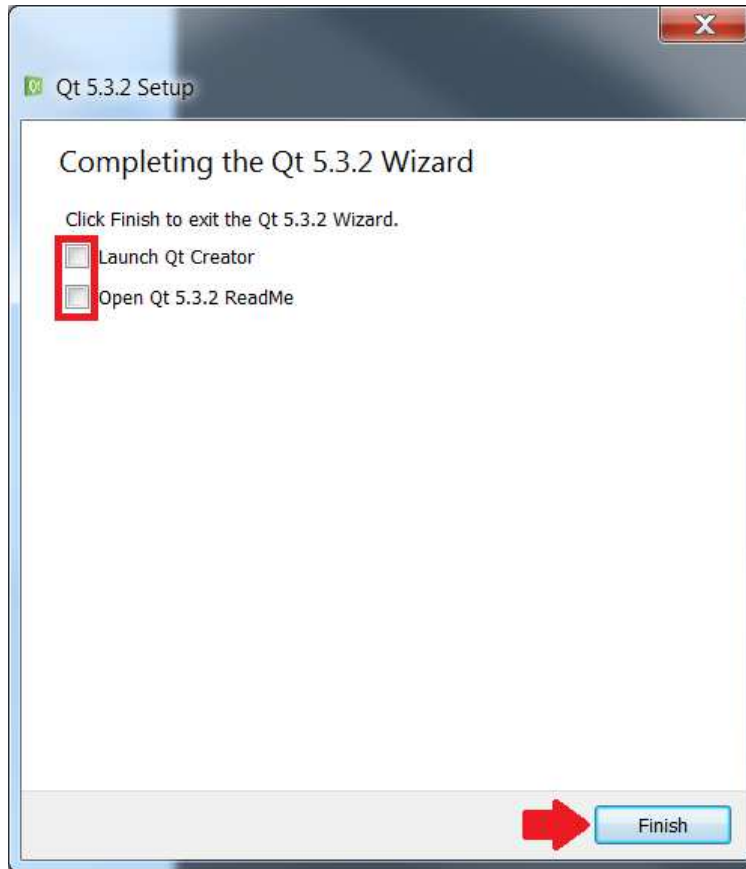

Figure 9. Qt Install Complete
8. Once Qt has finished installing, click "Finish." Uncheck the boxes for launching Qt Creator and opening the readme as in Figure 9.